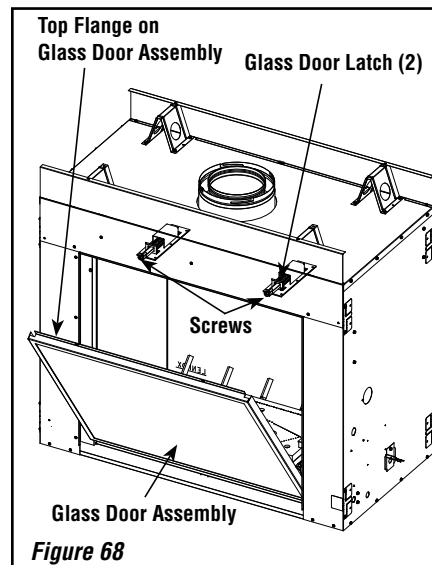

Figure 68
### Removing Glass Doors, Barrier, and Modesty Panel (see Figure 68)
- a) See **Figure 68**. While holding the top of the glass door frame in place, use a #3 Phillips screwdriver to remove the two (2) screws securing the door frame to the two (2) door latches.
- b) Carefully tilt the top of the glass door frame away from the unit (as shown in **Figure 68**), and then lift the door assembly up and out of the lower track.
### Installing Glass Doors, Barrier, and Modesty Panel (see Figure 68)
- b) Position the door in front of the firebox opening, with the top of the door held away from the fireplace (see **Figure 68**).
- d) Using a #3 Phillips screwdriver, fasten the door frame to the door latches with the two (2) latch screws. The latches should pull forward to engage the door frame.